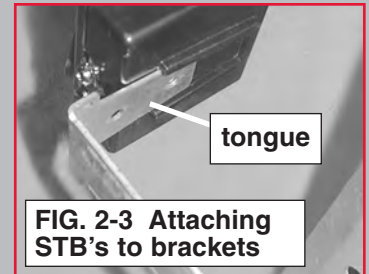

FIG. 2-3 Attaching STB's to brackets
- Slide source/sensor onto tongue of bracket until it clicks into place (Fig. 2-3).